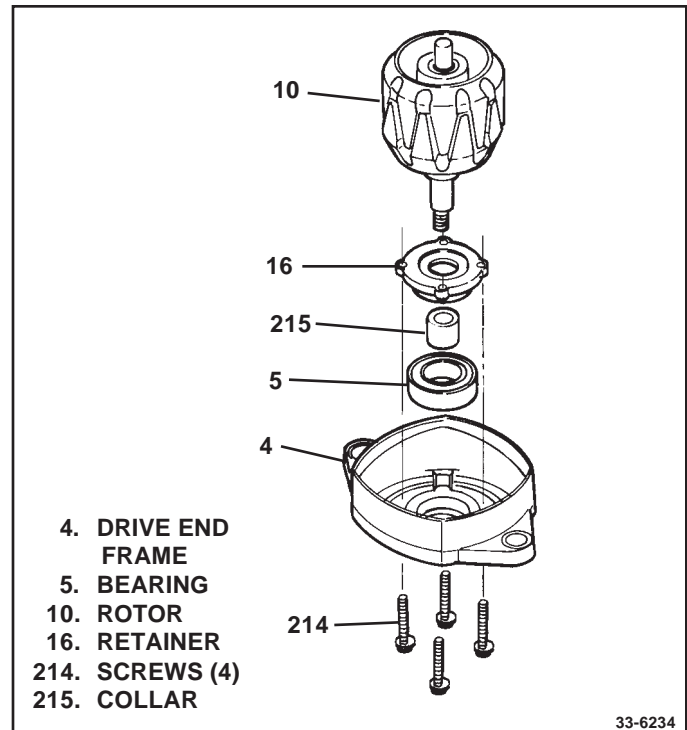

Figure 26. Installing Rotor in Drive End Frame
3. Insert bearing (5) (on rotor shaft) into bearing well in drive end frame (4). (See Fig. 26) Bearing will be a snug fit, but should slip in easily when properly aligned. Lubricate outside of bearing very lightly with ball and roller bearing lubricant (1948791) if necessary to facilitate assembly.
4. Hold drive end assembly with long end of rotor shaft down so that bearing retainer plate (16) falls against housing, then align retainer with screw holes. (See Fig. 26) Start each of the four retainer attaching screws (214), then tighten screws gradually in sequence to pull retainer squarely against bearing.